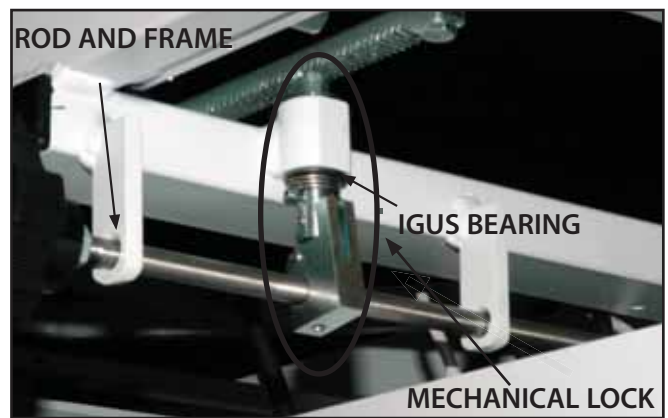

FIGURE 5.8
4. Slide the end of the rod closest to the locking mechanism through the frame. Drop the rod down releasing it from the Igus Bearing **(REFER TO FIGURE 5.8)**.